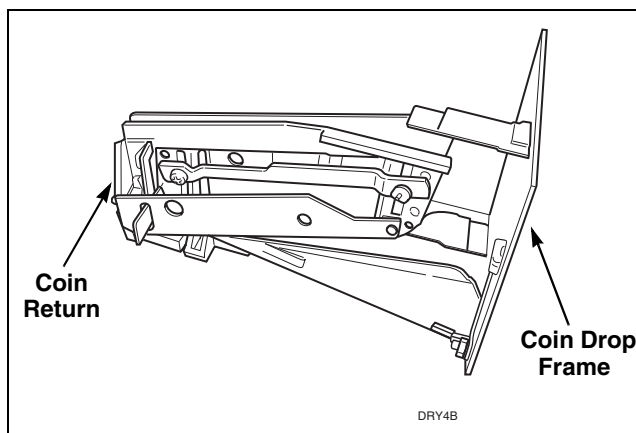

Figure 21
- g. Remove coin return from coin drop frame. Refer to *Figure 21*.